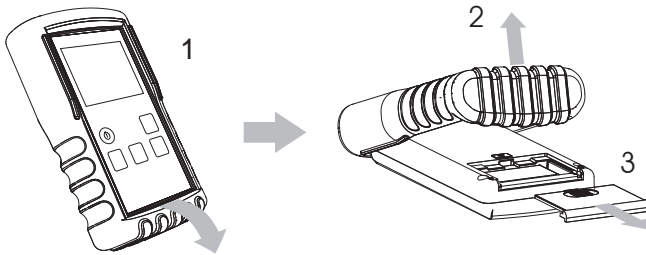

Fig 6 - Battery replacement
- 1-Release the rubber holster from plastic enclosure by pulling from the bottom of the holster as shown in the illustration (Fig. 6).